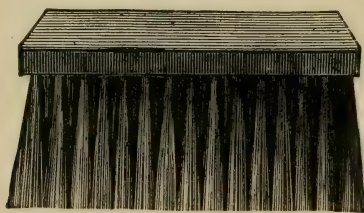

Fig. 2—Extra Wall Stipplers.
b. *Wall stipplers* are long bristle brushes made upon an oblong square head usually in two sizes, $3\frac{1}{2} \times 8$ and $3\frac{1}{2} \times 9$ inches. These brushes are used only in following up wall painting to obliterate brush marks and producing a uniform grained finish to the work, by beating the painting evenly all over. The head is a wooden one and the finished tool looks like a mammoth cloth brush. See Fig. 2.